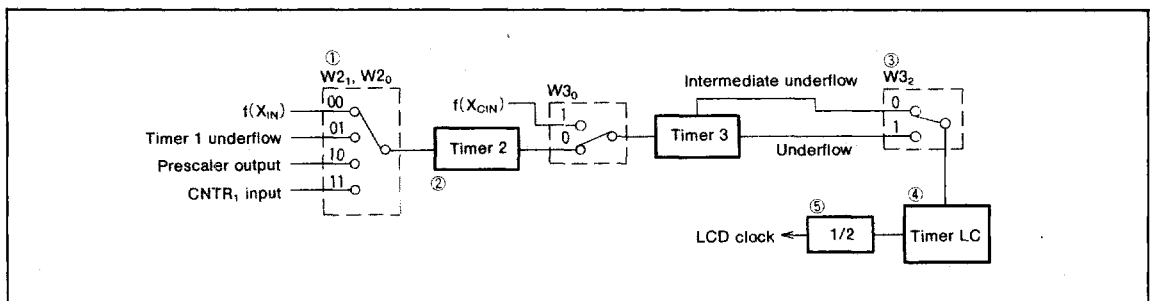

Fig. 38 LCD clock control circuit structure
(2) LCD clock control
The LCD clock is determined by the setting values of the timer 2 count source selection bits (W2₀ and W2₁), timer 3 count source selection bit (W3₀), LCD frequency dividing circuit count source selection bit (W3₂), and timer LC. Accordingly, the frequency (F) of the LCD clock is obtained by the following formula. The number (① to ⑤) under formula corresponds to Fig. 38.